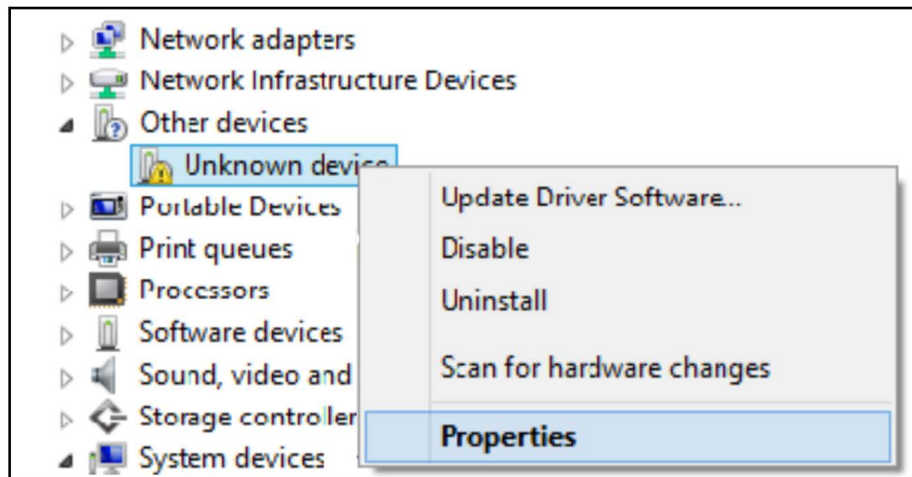

Figure 32. Laptop Device Manager
- b. In the Device Manager screen click the expand arrow (>) next to **Ports (COM & LPT)**. If Ports (COM & LPT) is not showing in 'Device Manager', look for unknown devices or a yellow exclamation point (see Figure 32).